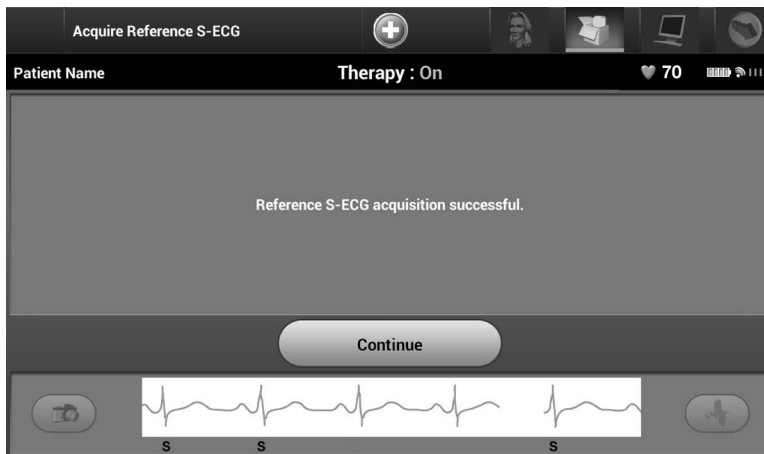

Figure 51: *Captured Reference S-ECG confirmation*
2. The Acquire Reference S-ECG process is automatically enabled during the Manual Setup Process. Select the Continue button to acquire a reference S-ECG. A confirmation screen will appear when the captured reference S-ECG is acquired (Figure 51).